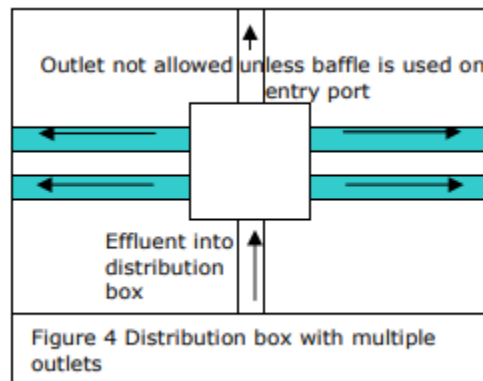

Figure 2: Distribution Box (D-Box) Detail (source: WADOH)
- The exit port of the distribution box opposite the entry port shall not be utilized unless an internal baffle is utilized (Figure 2).